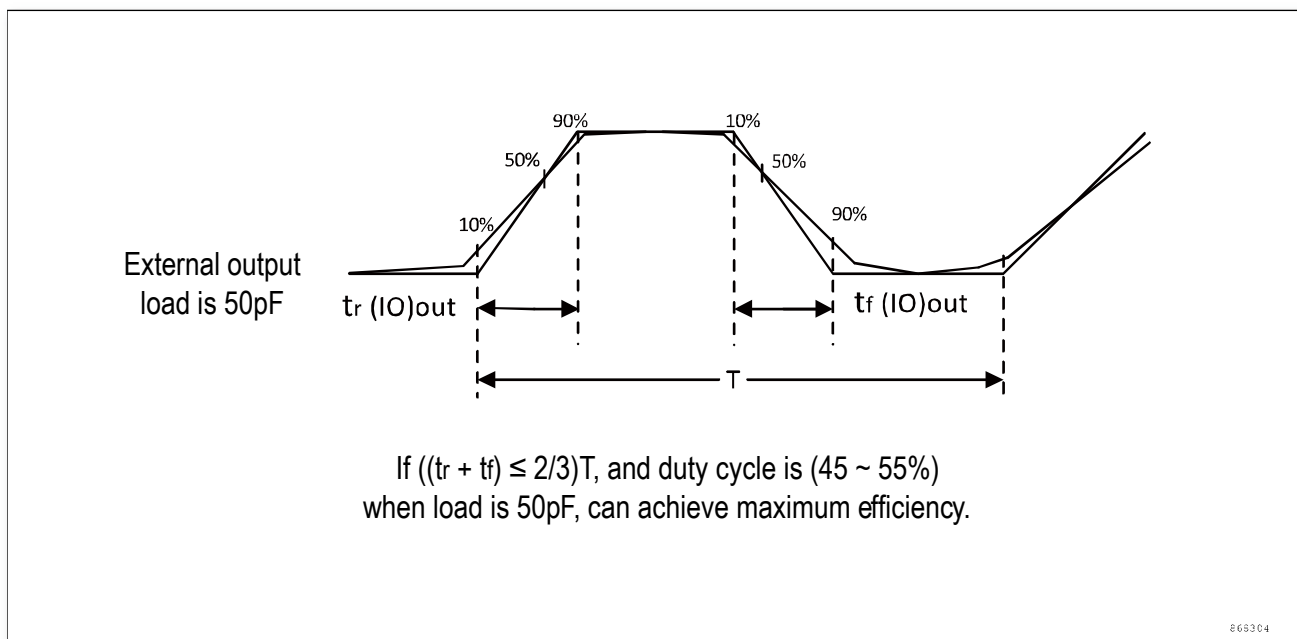

Figure 5-9 I/O AC characteristics
2. The maximum frequency is defined in Figure 5-9.